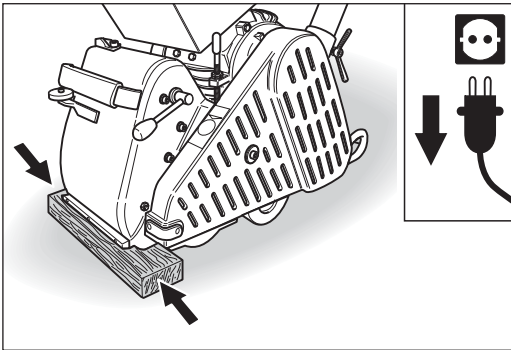

Fig. 43 Transport or storage of the machine on a flat piece of wood.
- **During transport or storage, place a flat piece of wood between the floor surface and machine housing (Fig. 43)! This prevents the housing from slipping and stops the drum being in direct contact with the floor!**